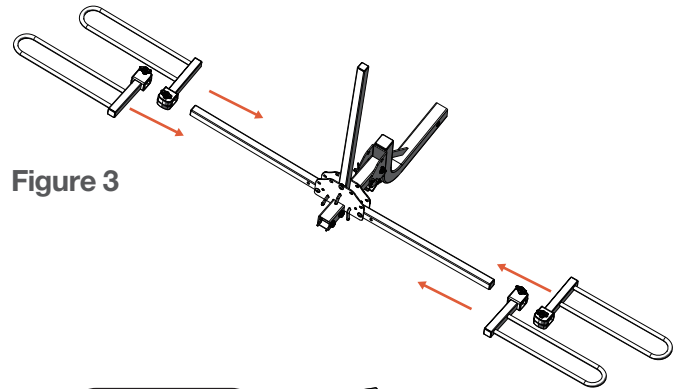

Figure 3
Slide on two of each support arm (4,5) onto the main body rack (1) arms, making sure the tightening knob is facing upward. See Figure 3. Tighten the knobs as shown in Figure 4, Detail F. After the supports are tightened, insert set screw (8) into the end of each arm as shown in Figure 4, Detail G.